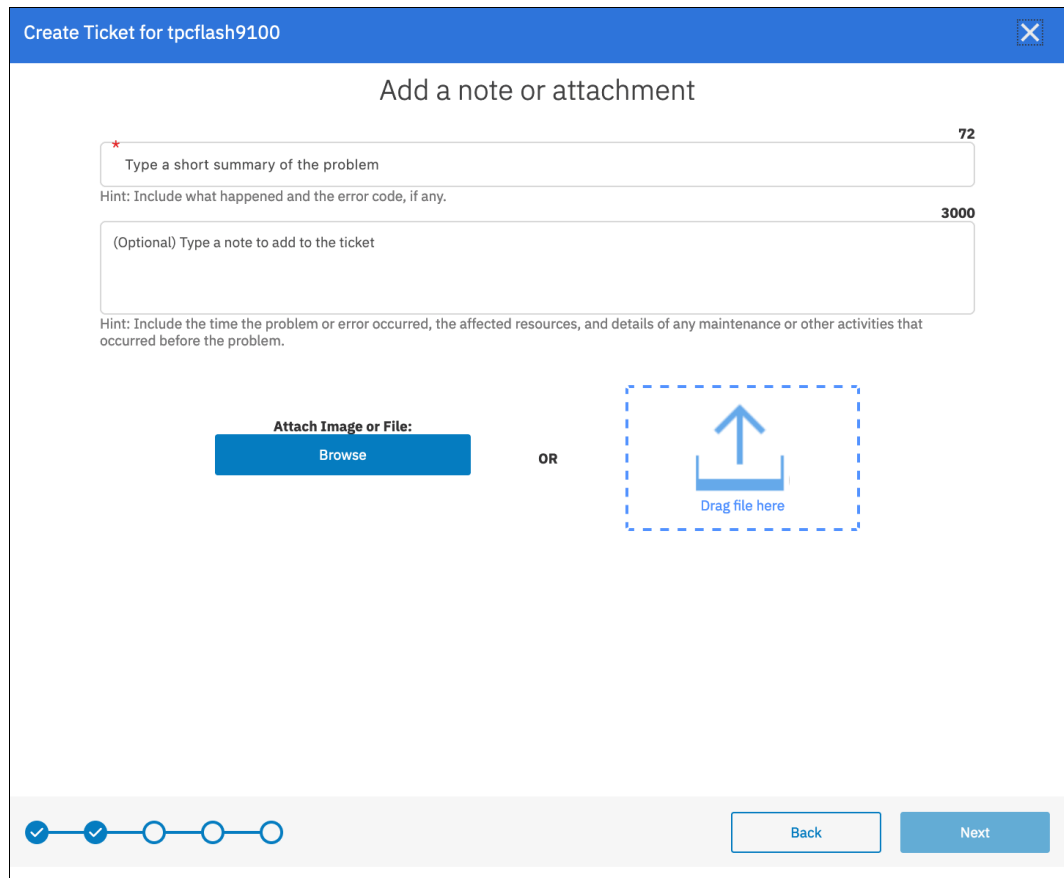

Figure 5-14 Add a note or attachment window
3. You can enter relevant details about your problem to the ticket, as shown in Figure 5-14. It is also possible to attach images or files to the ticket, such as PuTTY logs and screen captures. Once done, select **Next**.